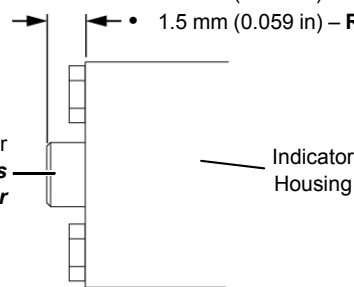

FIGURE 5-1
Either or both load drums can be equipped with a free fall clutch/brake as shown in Figure 5-1.
Replace brake discs when indicated in Figure 5-1.
See Figure 5-1 for following procedure.
- With brake applied, check distance between ring on wear indicator and edge of indicator housing. It should be approximately 9/32 in (7,11 mm) as shown in Figure 5-1.